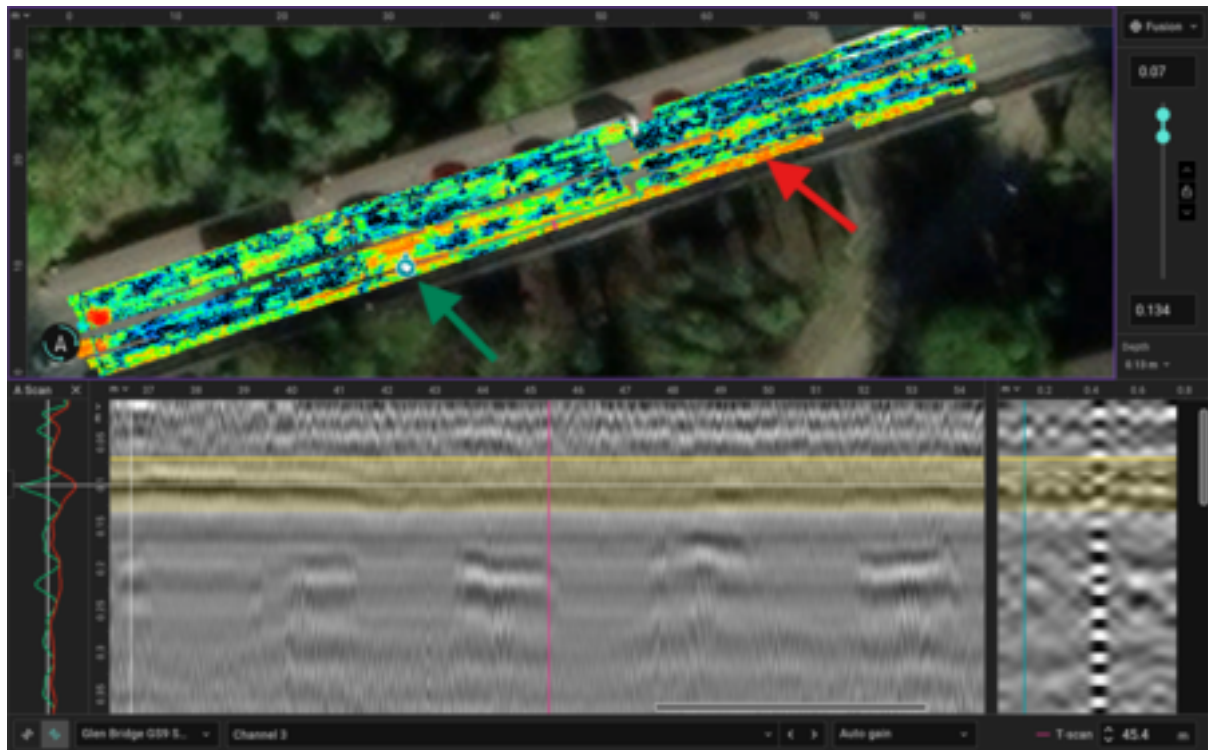

Fig.3 Low amplitude response shown in orange, high amplitude higher dielectric response in red
- **Waterproofing Boundary Mapping:** Evaluated the signal strength at the asphalt-concrete boundary. Low-amplitude reflections (orange/green zones, Fig.3) indicated dry, intact waterproofing, while high-amplitude/high-dielectric reflections (red zones, Fig. 3) pointed to water accumulation and potential debonding.